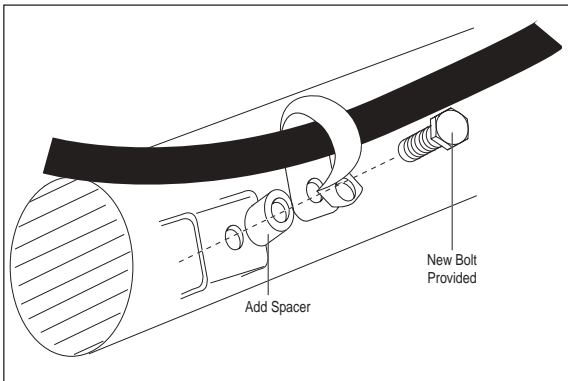

Figure 3
3. Models with disc brakes: Remove the bolt holding the cable onto the back-side of the passenger's side axle. Install the supplied spacer (JJ) between the bracket and the emergency brake cable clip. Insert the supplied bolt (KK) and tighten the cable down securely (Figure 3).